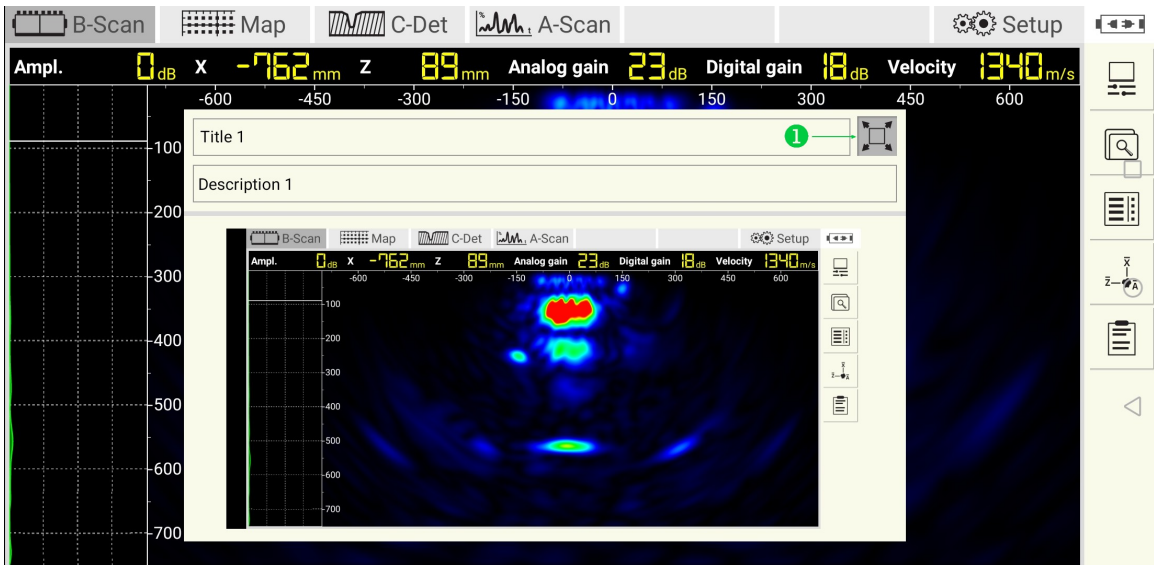

Figure 18: Screenshot zooming
After pressing the zoom  button The fields title and description become uneditable, Figure 18. Use the unzooming tool ❶ to switch to the previous view.